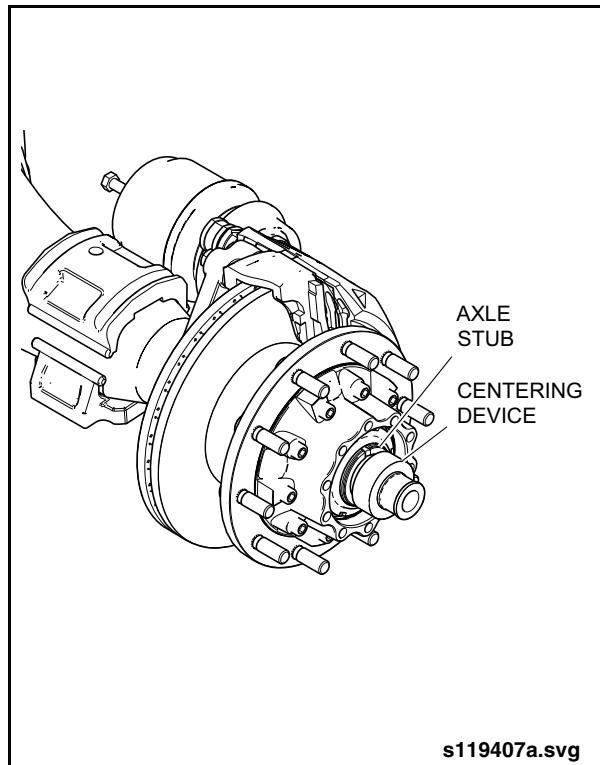

Fig. 2-13: Inserting Centering Device
1. Insert the centering device into the axle stub until it stops. See "Fig. 2-13: Inserting Centering Device" on page 17.